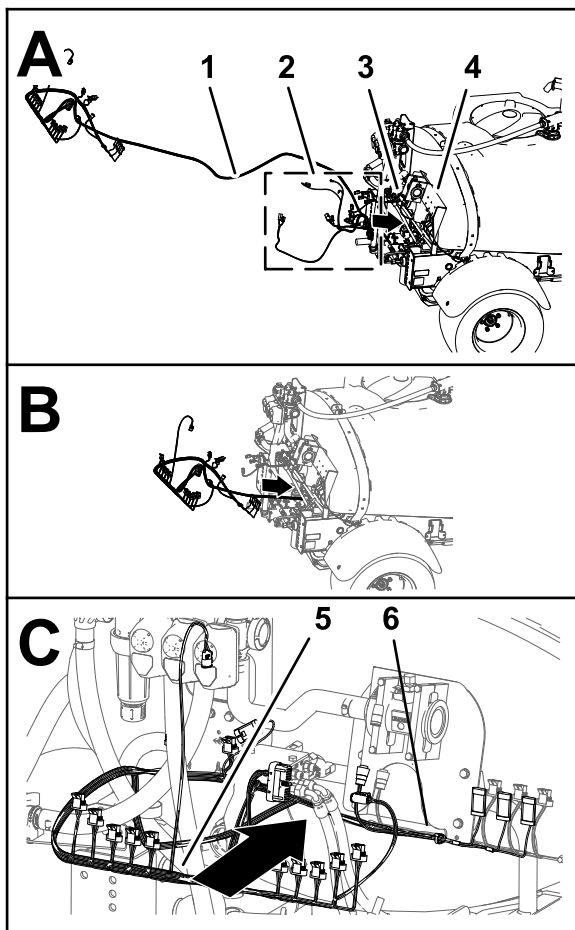
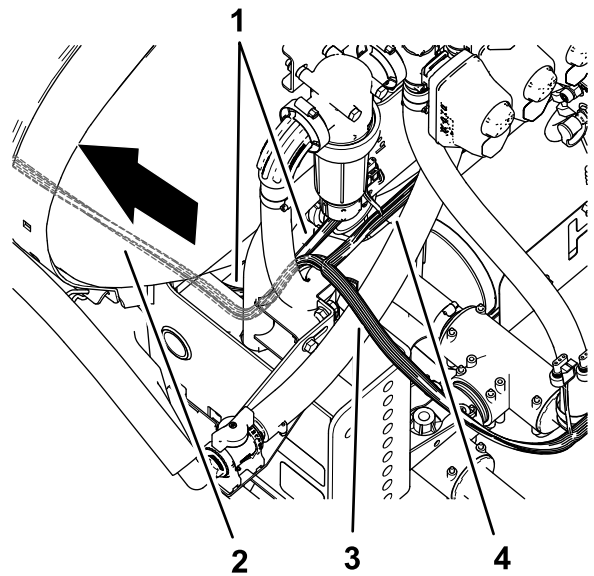

Figure 76
Figure 77
2. Route the 84 cm (33 inch), 60 cm (23-1/2 inch), and 66 cm (26 inch) wire-harness branches of the kit wire harness to the left side of the machine along the machine wire harness (Figure 76 and Figure 77).